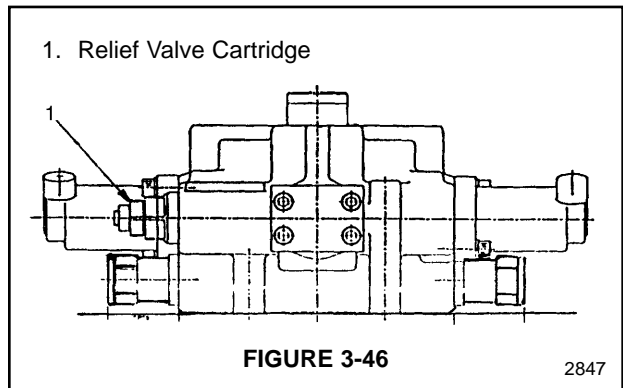

FIGURE 3-46
3. Adjust the screw on the relief valve cartridge (1, Figure 3-46). Loosen the locknut and turn the screw clockwise to raise relief pressure. Turn the screw counterclockwise to lower the relief pressure.